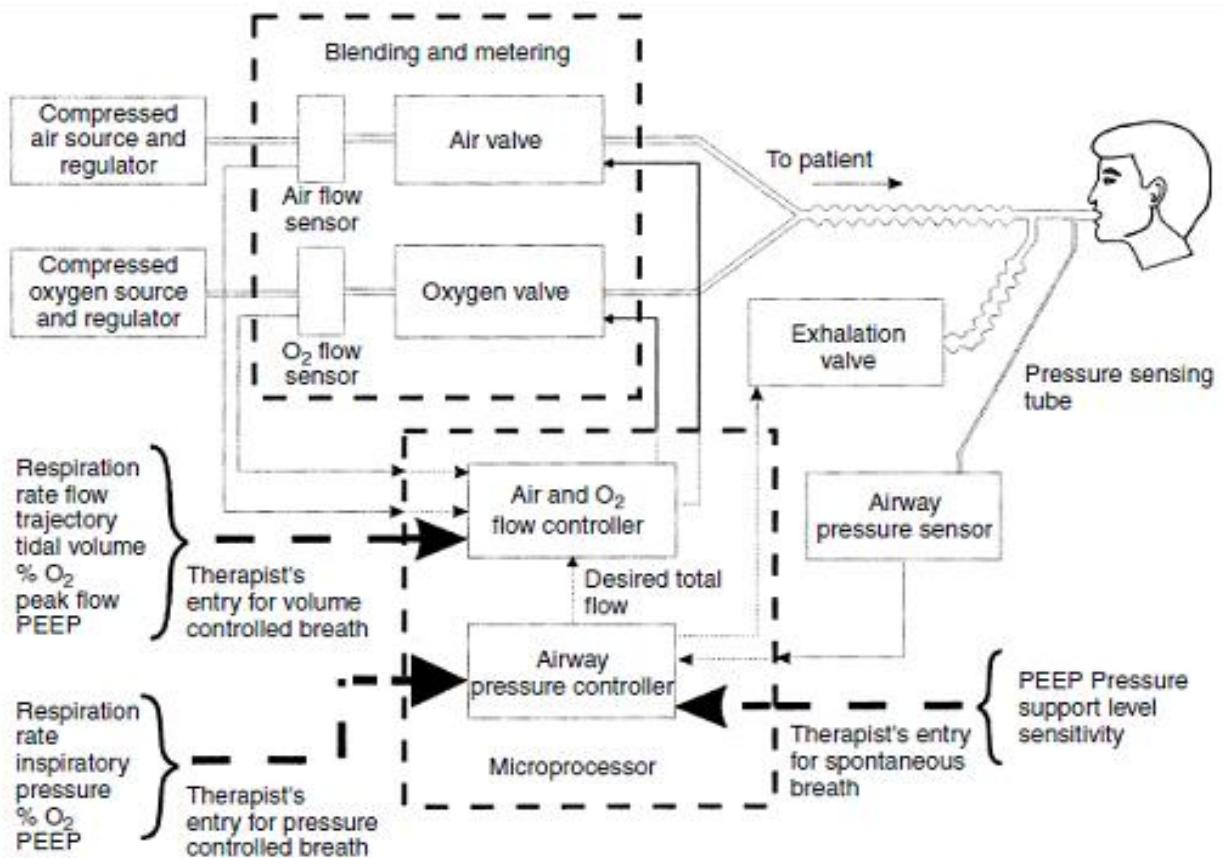

Figure 8, a simplified block diagram of a control structure for mandatory and spontaneous breath delivery
- Figure 8 shows a simplified block diagram for delivering mandatory or spontaneous ventilation.
- In Figure 8, the air and oxygen valves are placed in closed feedback loops with the air and oxygen flow sensors. The microprocessor controls each valves to deliver the desired inspiratory air and oxygen flows for mandatory and spontaneous ventilation. During inhalation, the exhalation valve is closed to direct all the delivered flows to the lungs. When exhalation starts, the microprocessor actuates the exhalation valve to achieve the desired PEEP level.
- The airway pressure sensor, shown on the right side of Figure 8, generates the feedback signal necessary for maintaining the desired PEEP (in both
- That is, the clinician must specify the following parameters for delivery of CMV breaths (1) respiration rate; (2) flow waveform; (3) tidal volume; (4) oxygen concentration (of the delivered breath); (5) peak flow; and (6) PEEP, as shown in Figure 8. It is noted that the PEEP selected by the therapist in the mandatory mode is only used for control of exhalation flow.
- The therapist entry for pressure-controlled ventilation is shown in Figure 8. The total desired flow is generated by a closed loop controller labeled as Airway Pressure Controller.
- The small diameter ($\sim= 5$ mm) pressure sensing tube, shown on the right side of Figure 8, pneumatically transmits the pneumatic pressure signal from the patient airway to a pressure transducer placed in the ventilator.
- The desired airway pressure is computed from the therapist entries of PEEP, pressure support level, and sensitivity. The multiple-loop control structure shown in Figure 8 is used to deliver a CPAP or a pressure support breath.